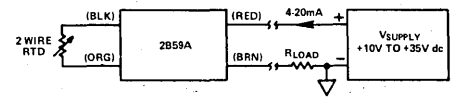

Figure 2. Basic Application
1. Connect the transmitter as shown in Figure 2. Substitute a resistance standard for the RTD and use a load resistor for the appropriate power supply voltage, as specified by the graph of  $R_{LOAD\ max}$  vs.  $V_{SUPPLY}$  (Figure 1).